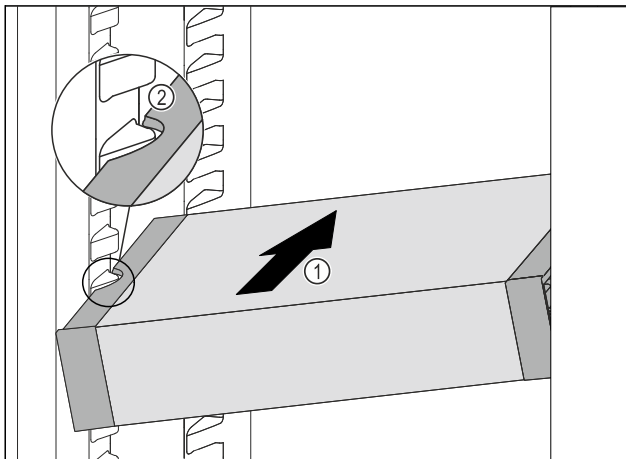

Fig. 169
- Insert the VarioSafe into the fridge section at an angle Fig. 169 (1) until the recesses in the side Fig. 169 (2) of the VarioSafe are at the level of the support rib in the fridge section.